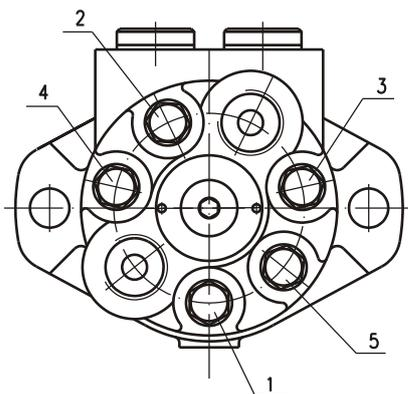

Fig.10A
21. For rear ported motors only: Install washer (O-ring for MLHP...7,8) on plug. Tighten plug with S10 Allen wrench with torque  $3,0 \div 3,5$  daNm. Make sure that End cover is orientated as shown on Figure 10A!